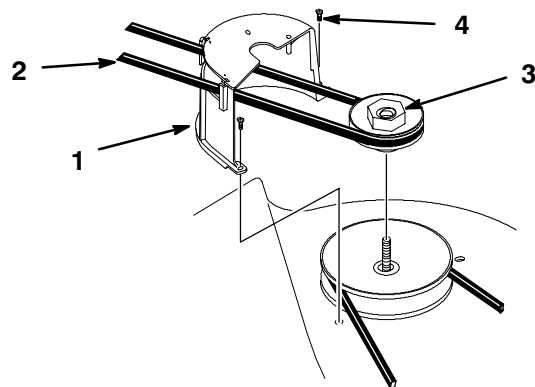

Figure 11
2. Slide the blower belt through opening in the belt cover and place around blower pulley (Fig. 11).
3. Install the belt cover using existing hardware (Fig. 11).